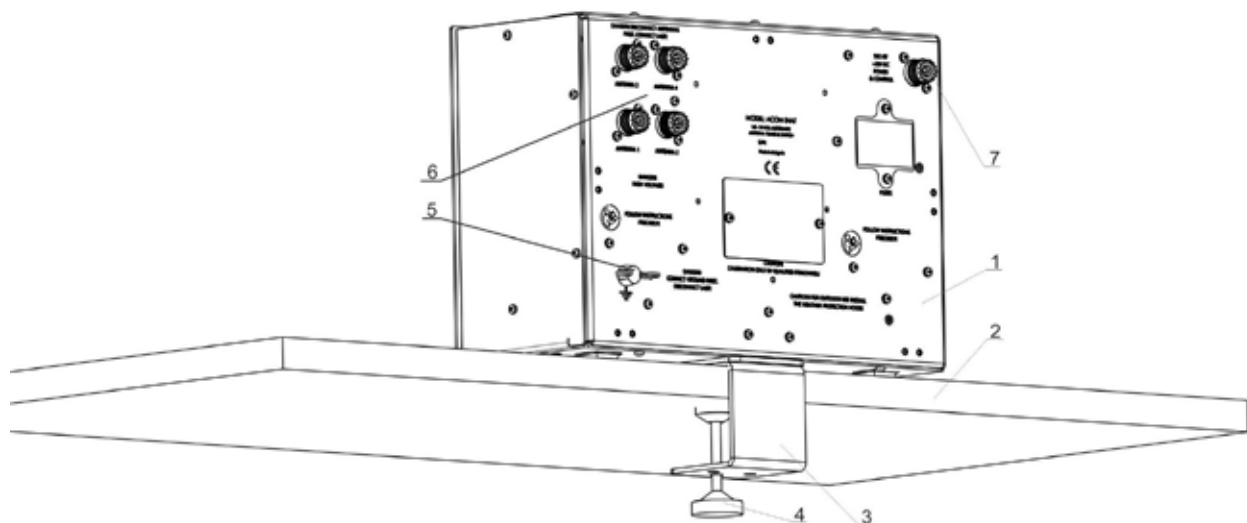

Fig. 2-3. Securing the ATU to a desk
After securing the tuner body (1) on the desk (2) by fastening the bracket bolt (4), the bracket (3) remains hidden from sight – figure 2-3. This ensures both a tidy workspace and the necessary stability of the tuner body together with up to 5 heavy coaxial cables connected to the back side.
Check if the antenna cables and grounding system of your radio station are installed as described in S. 1.5.1. Next, connect the grounding terminal (5) of the tuner labeled GROUND (Fig. 2-3) to the **main grounding plate of the radio station** (appx.1-9).
After connecting the grounding terminal, connect the antenna feeders (up to 4 coaxial cables) to the respective connectors (6) ANTENNA 1 through 4 on the tuner (Fig. 2-3). Without powering up the amplifier, use a coaxial cable to connect the tuner HF input (7) labeled 50Ohm RF +26 VDC POWER & CONTROL (Fig.2-3) to the ACOM transistor amplifiers output labeled RF OUTPUT.